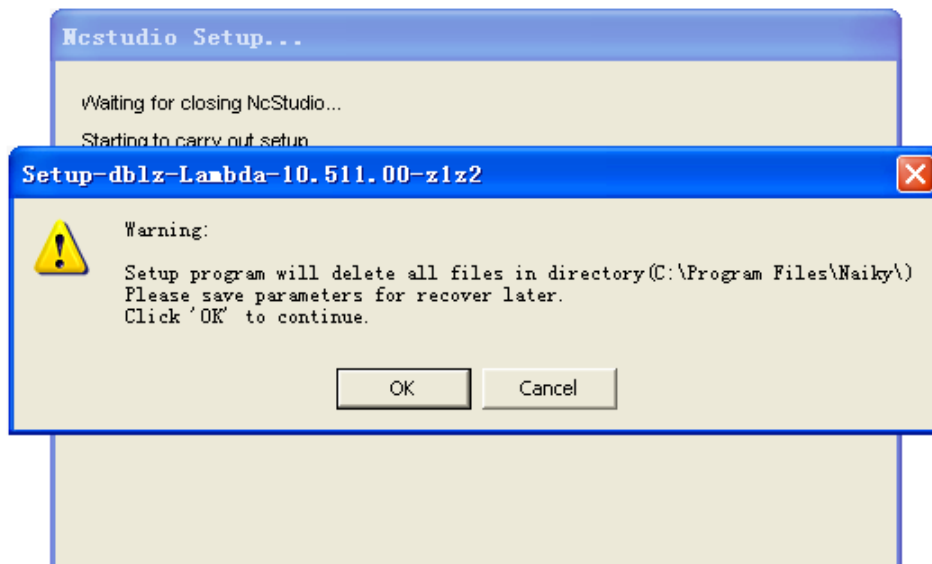

Fig. 3-10 Prompt to save parameters
- 2) Setup continues after a language is selected. If the operating system has already been installed with NcStudio software, the installation package will delete the old files and give a prompt, as shown in Fig. 3-10. If “OK” is selected, the setup will continue. Otherwise, the setup will exit.